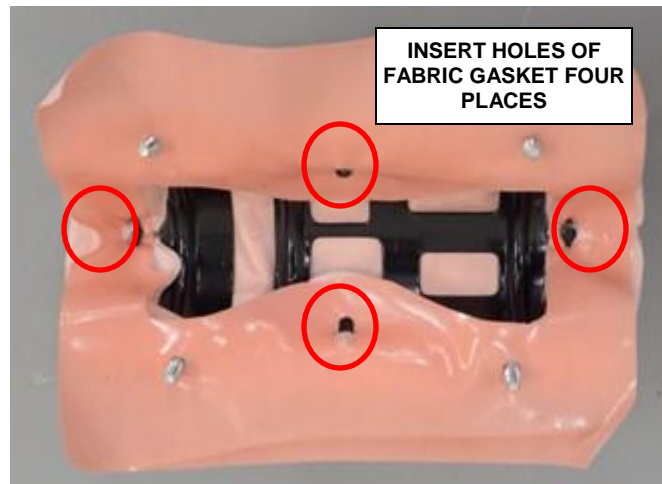

Figure 60 – Fabric Gasket
- j. With the help of a trim tool insert the holes of fabric gasket, four places (Figure 60).